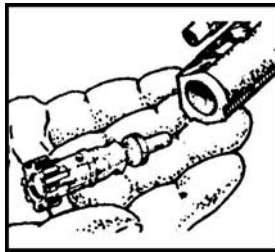

Figure 16. Removing the bolt.
- n. Pull the bolt assembly from the carrier (Figure 16).